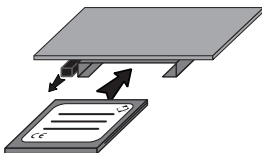

Figure 4 CompactFlash Insertion
8. Align the **CompactFlash** so that it is face down, and slide it into the empty CF Slot until the **Ejector Button** pops out (**Figure 4**).